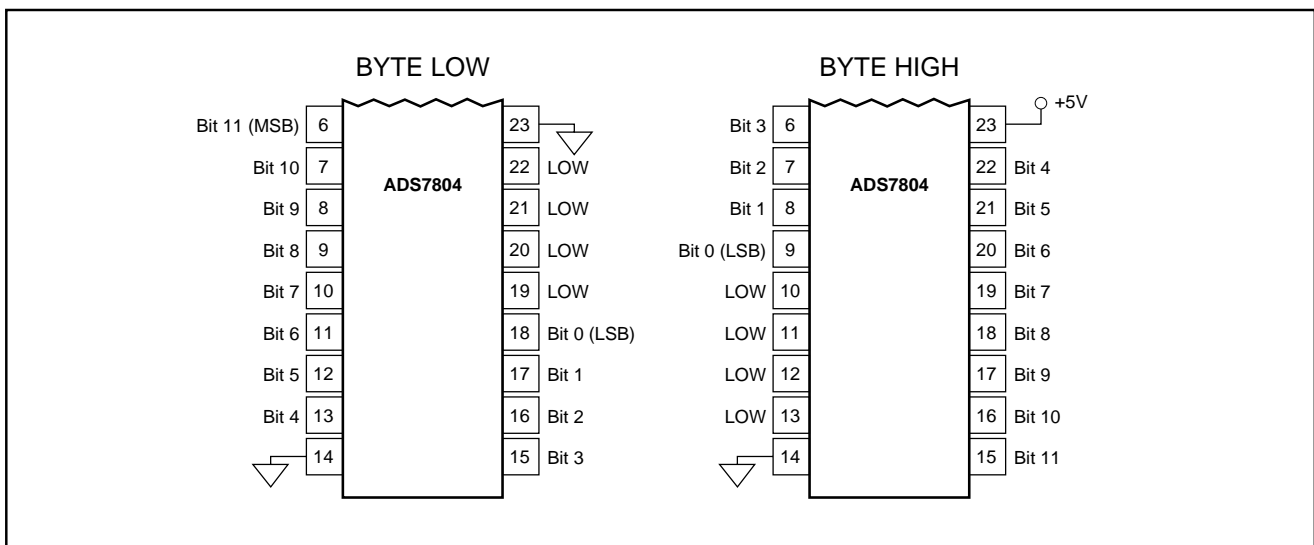

FIGURE 2. Bit Locations Relative to State of BYTE (pin 23).
NOTE: (1) See Figures 2 and 3 for constraints on data valid from conversion "n-1".
The ADS7804 outputs full or byte-reading parallel data in Binary Two's Complement data output format. The parallel output will be active when R/C (pin 24) is HIGH and CS (pin 25) is LOW. Any other combination of CS and R/C will tri-state the parallel output. Valid conversion data can be read in a full parallel, 12-bit word or two 8-bit bytes on pins 6-13 and pins 15-22. BYTE (pin 23) can be toggled to read both bytes within one conversion cycle. Refer to Table III for ideal output codes and Figure 2 for bit locations relative to the state of BYTE.